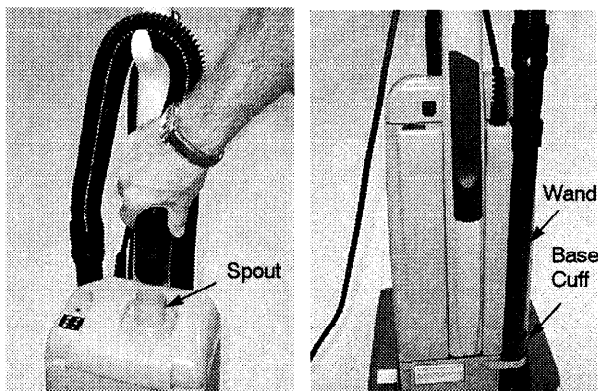

FIG. 3
- Slide hose cuff over spout on bag compartment lid and wand into base cuff as shown. Snap wand into retainer clip (Figure 3).
- Store crevice tool on carrying handle (Figure 3).